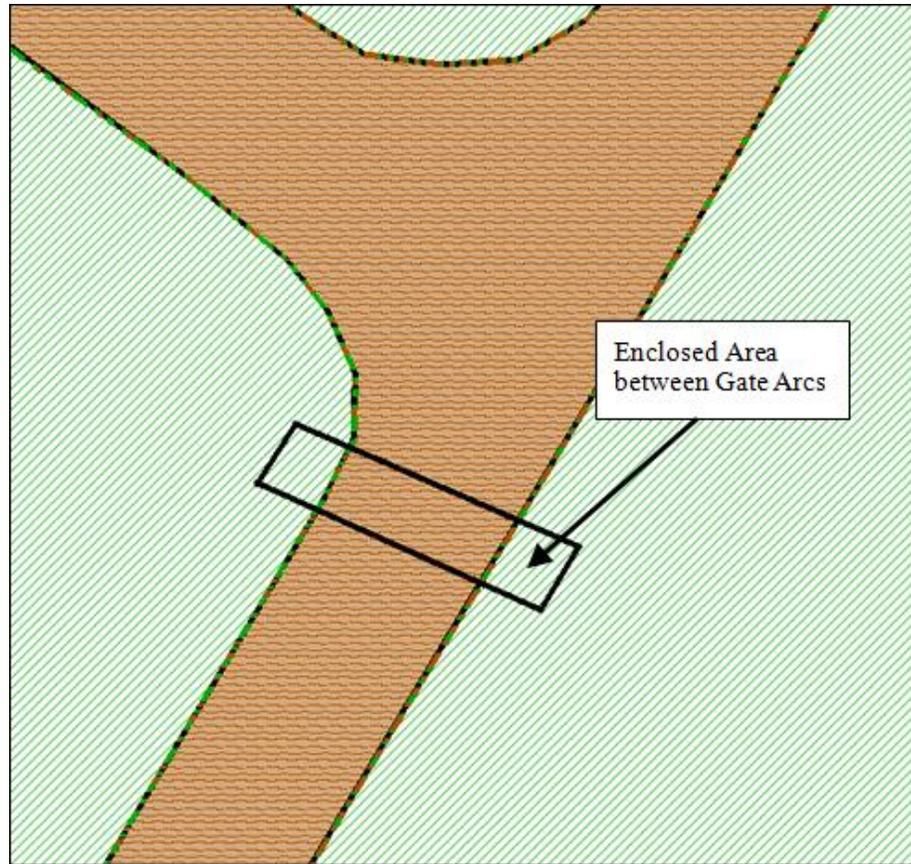

Figure 6 Enclosed area between gate arcs
3. Using the **Create Feature Arc**  tool, click out a rectilinear arc that encloses the area between the two gate arcs (Figure 6). Use the visible inactive gate arcs from the “BC” coverage as a guide when drawing the enclosed area.